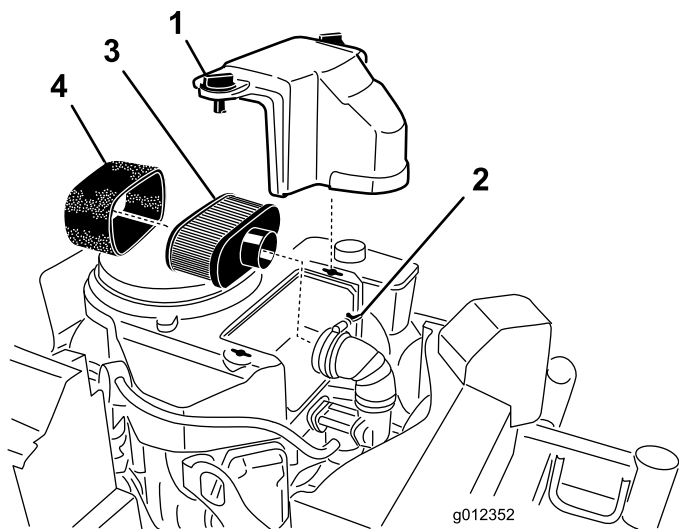

Figure 34
2. Clean around the air cleaner to prevent dirt from getting into the engine and causing damage (Figure 34).
3. Rotate the cover knobs 1/4 turn counterclockwise and remove the air-cleaner cover (Figure 34).
4. Rotate the thumbscrew of the hose clamp counterclockwise until you can separate the air-cleaner assembly from the inlet duct (Figure 34).
5. Carefully pull the foam element off the paper element (Figure 34).
1. Inspect the element for tears, an oily film, or damaged (Figure 34).
1. Inspect the element for tears, an oily film, or damage to the rubber seal (Figure 34).
1. Carefully slide the foam element onto the paper air-cleaner element (Figure 34).
2. Align the air-cleaner assembly onto the inlet duct and secure it with the hose clamp (Figure 34).
3. Align the air-cleaner cover onto engine cover and secure the cover by rotating the cover knobs 1/4 turn clockwise (Figure 34).